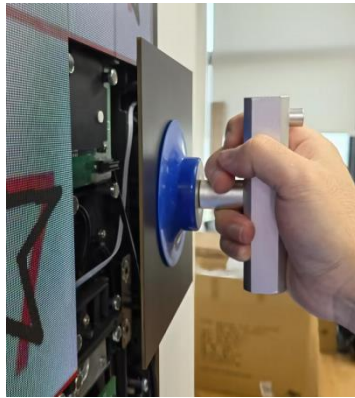

Figure 36
2. Gently remove the LED panel in a parallel direction. See Figure 36.